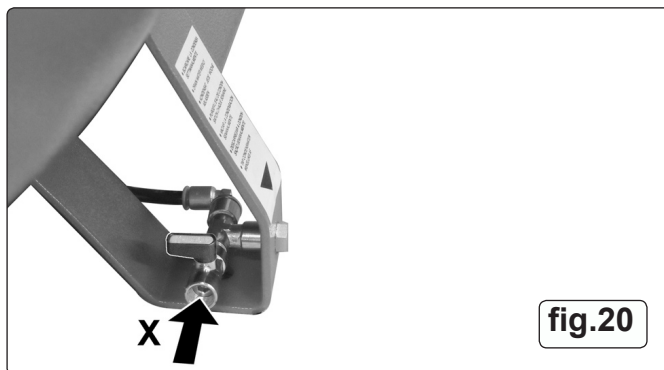

fig.20
- 7.8.1 Drain the condensate from the air tank on a weekly basis using the tap outlet secured to the foot of the tank. See fig.20. Attach a suitable tailpiece and drainage tube to thread 'X'. Direct the tube into a suitable container and open the drainage tap.